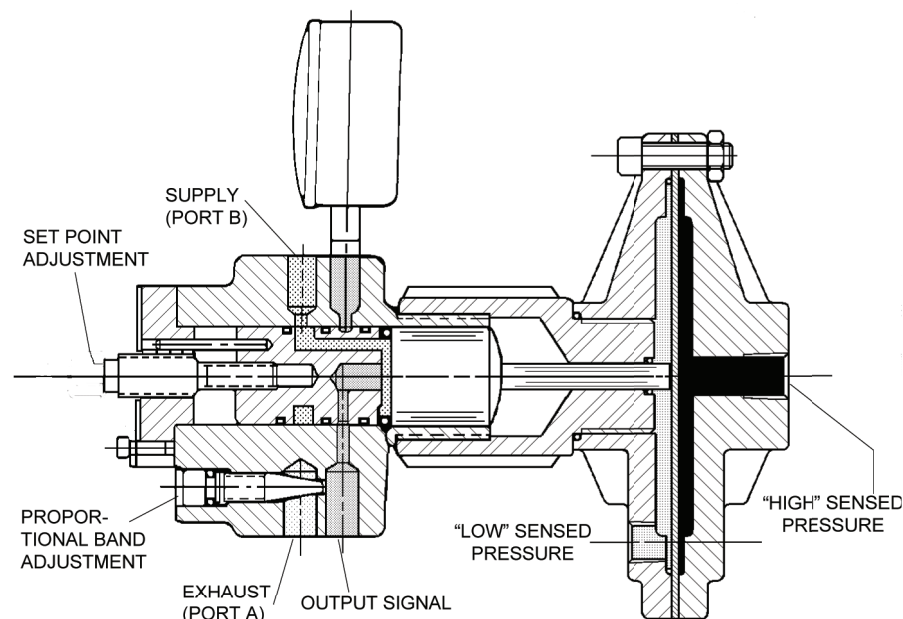

Figure 8
4. On reverse acting 764P controllers (see Figure 8) the supply enters PORT B (not PORT A). With an increase in the controlled pressure, the supply air flowing through the sensor decreases, which reduces the output signal. The proportional band restriction regulates the flow of exhaust through PORT A. A 764PD operates in a similar manner.